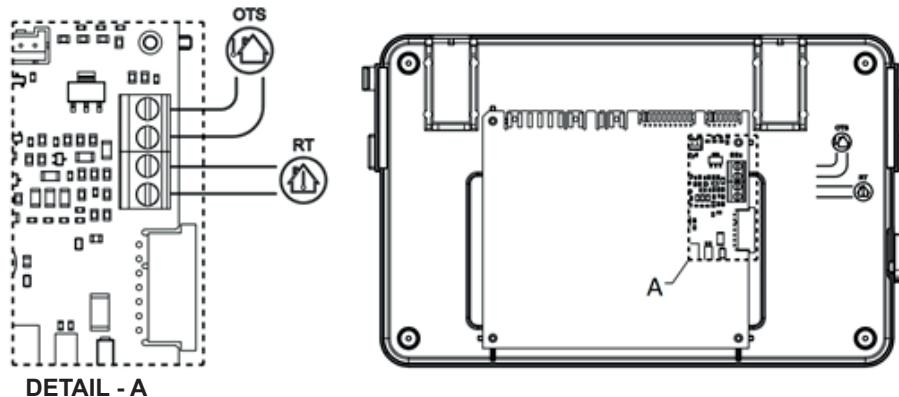

Figure 19. Interior view of the plastic panel
- Connect remote control, room thermostat and outside sensor wires as shown in Figure 19 detail A. Note: Room thermostat is in bridged condition as factory setting. If room thermostat will not be used, certainly it must be left as bridged.